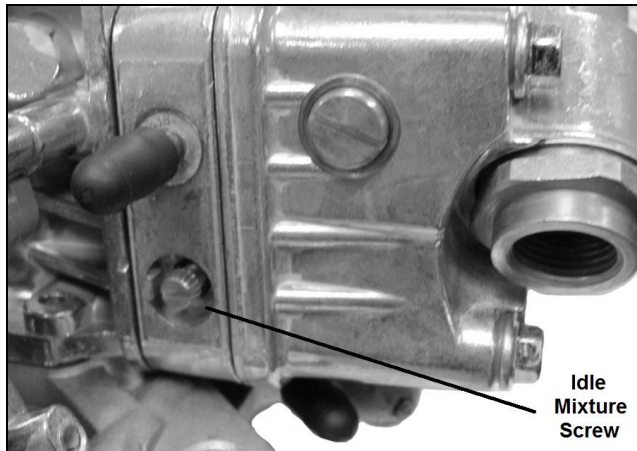

Figure 11
2. Adjust each idle mixture screw (**Figure 11**) 1/8 turn at a time, alternating between each screw. Turn them equally, until you achieve the highest possible vacuum reading without adjusting the curb idle speed screw. Turn screws in to lean the mixture. Turn them out to richen the mixture.